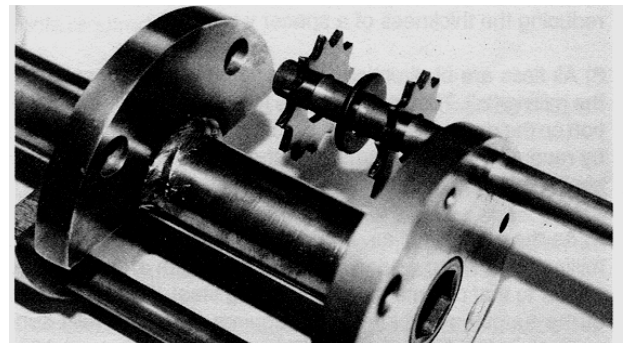

FIGURE 15
1) Install a flail next to the outside side plate of the narrow section. Next, install a spacer washer. Follow with a flail and continue the sequence until the section is full. FIGURE 15.